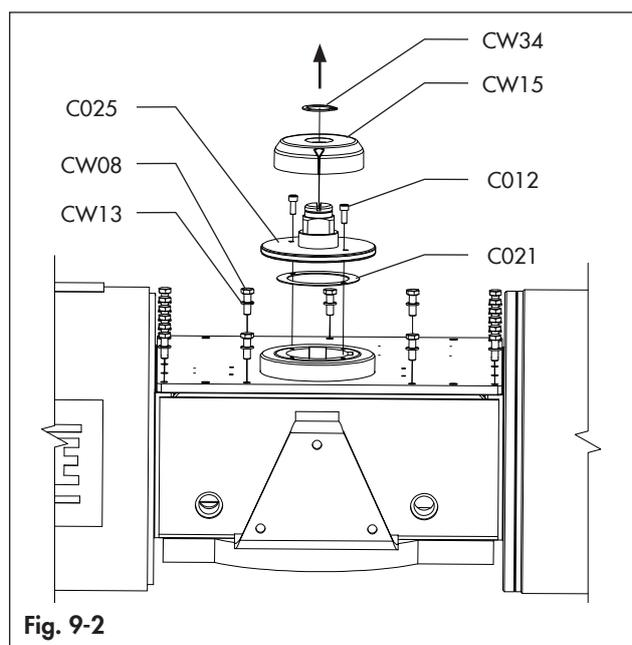
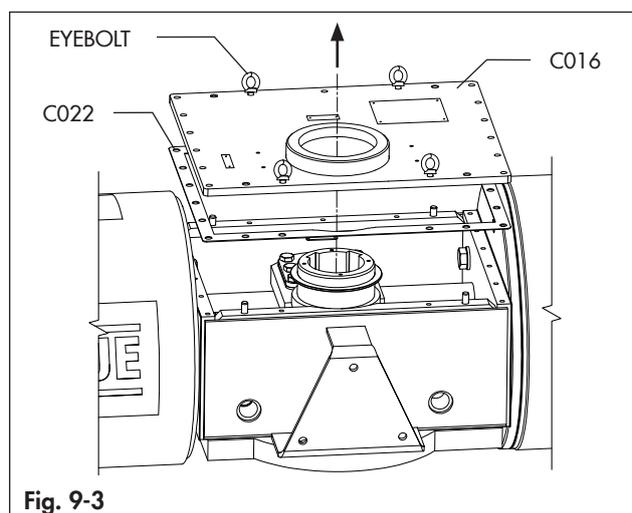

Fig. 9-2
Fig. 9-3
Refer to Fig. 9-2 and Fig. 9-3.
- Remove the cover (C016) and the gasket (C022): four eyebolt can be assembled into the threaded holes to facilitate the lifting operations. (Fig. 9-3)